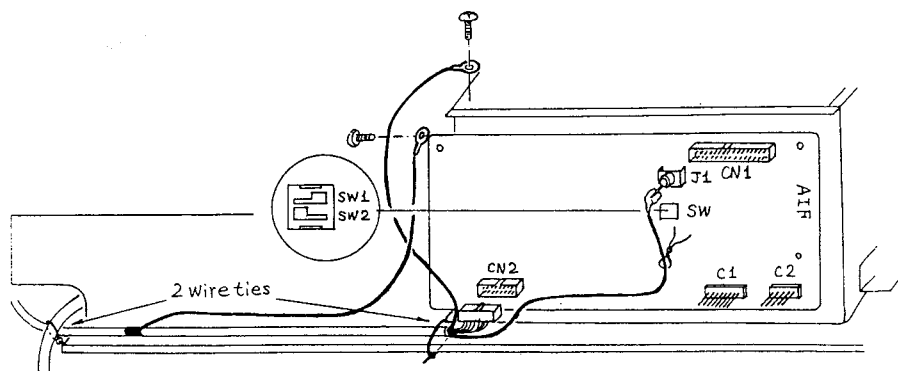

Fig. 4
9. Connect the ground wires as shown in figure 4 by removing the digital circuit cage securing screws.
10. Attach the AIF circuit board (supplied in the installation kit) to the back side of digital circuit board cage as shown in figure 4.
Note: Please check the position of switches SW1 and SW2 (see figure 4). For models FX-10 and FX-20 set switch 1 to the right and switch 2 to the left (when viewed in mounted position).
11. Plug the 16 pin shielded cable connector into socket CN2 and the phono-type pin plug into J1 of the AIF circuit board (see figure 4). Place the excess shielded cable in the slot formed by the digital board cage and the shelf in the organ. Tie the shielded cable close to the AIF board. A cable tie has been provided on the board for the shielded cable that connects to J1.
12. Tie the 16 pin cable as shown in figure 4, using the supplied wire ties.